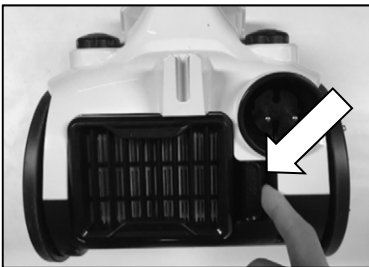

Fig 15
- a. As shown in Fig.15, press the lock button to open the outlet cover grill.